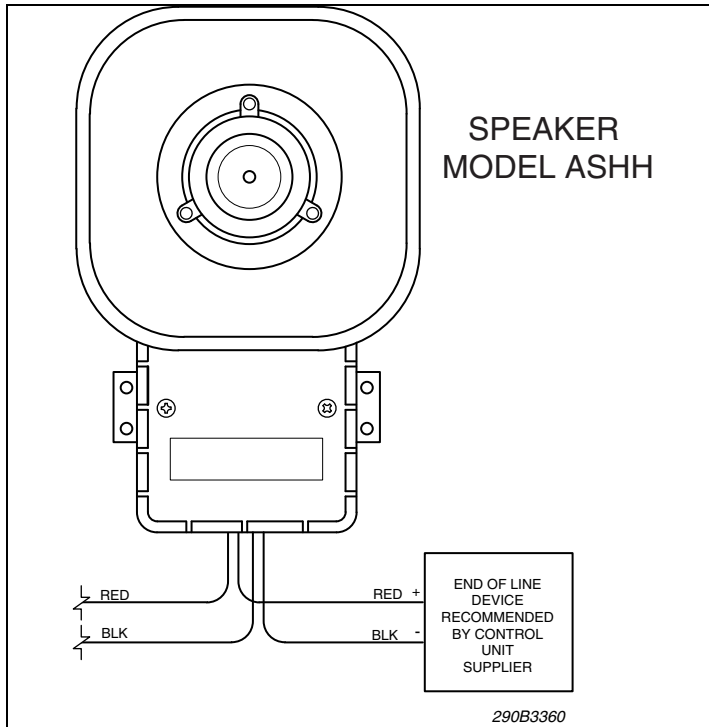

Figure 2: Typical Tone Card Installation Wiring
1. See figure 2. Connect the device's red (+) leads to the power source positive (+) lead. Connect the device's black (-) leads to the power source negative (-) lead.